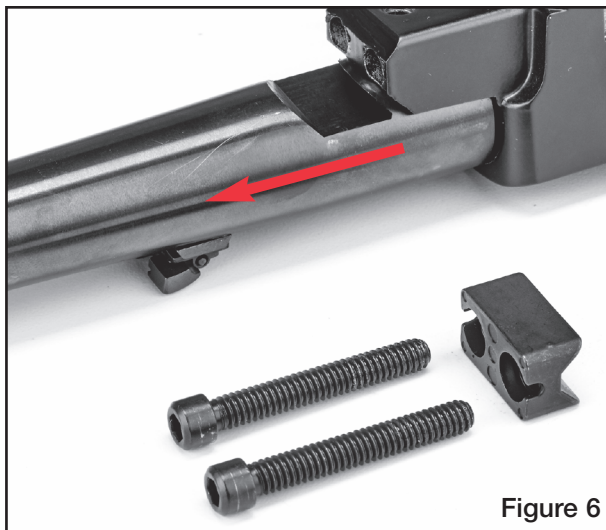

Figure 6
2. Remove the barrel retainer v-block and the barrel (see Figure 6).